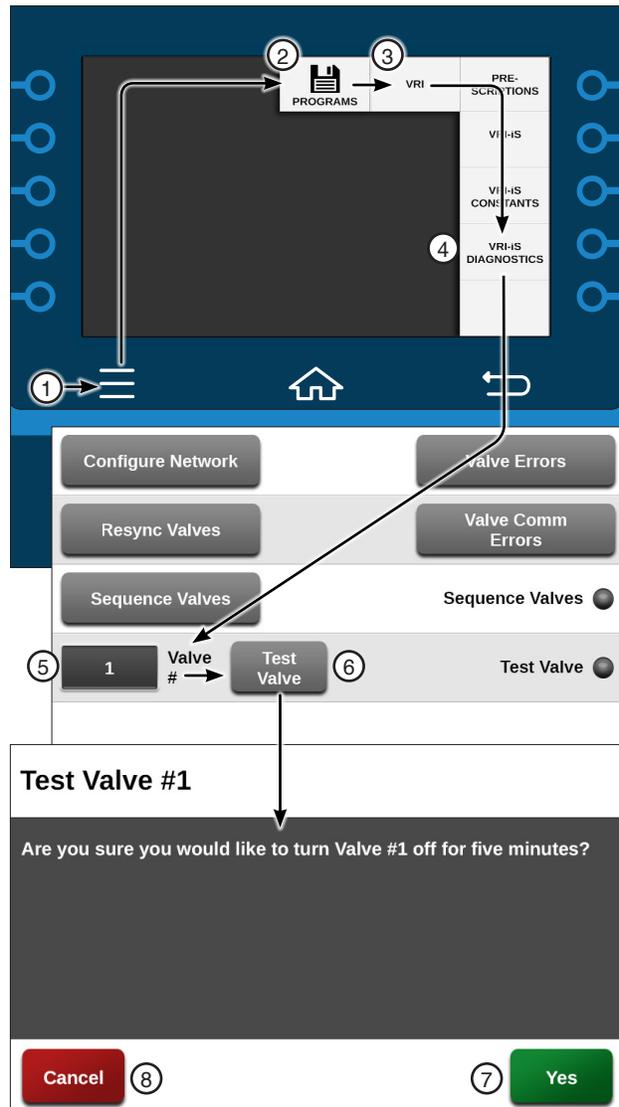

Figure 182-1 1. Menu 5. Valve #
1. Push **Menu**, **Programs**, **VRI** and **VRI-iS Diagnostics** to display the VRI-iS Diagnostics screen. Refer to Figure 182-1.